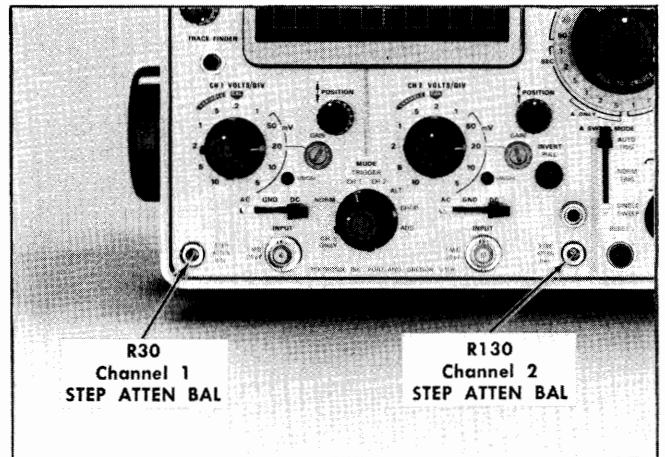

Fig. 5-10. Location of Channel 1 and 2 STEP ATTEN BAL adjustments (front panel).
d. ADJUST—Channel 1 STEP ATTEN BAL adjustment, R30 (see Fig. 5-10), for no trace shift as the CH 1 VOLTS/DIV switch is changed from 20 mV to 5 mV.
h. ADJUST—Channel 2 STEP ATTEN BAL adjustment, R130 (see Fig. 5-10), for no trace shift as the CH 2 VOLTS/DIV switch is changed from 20 mV to 5 mV.